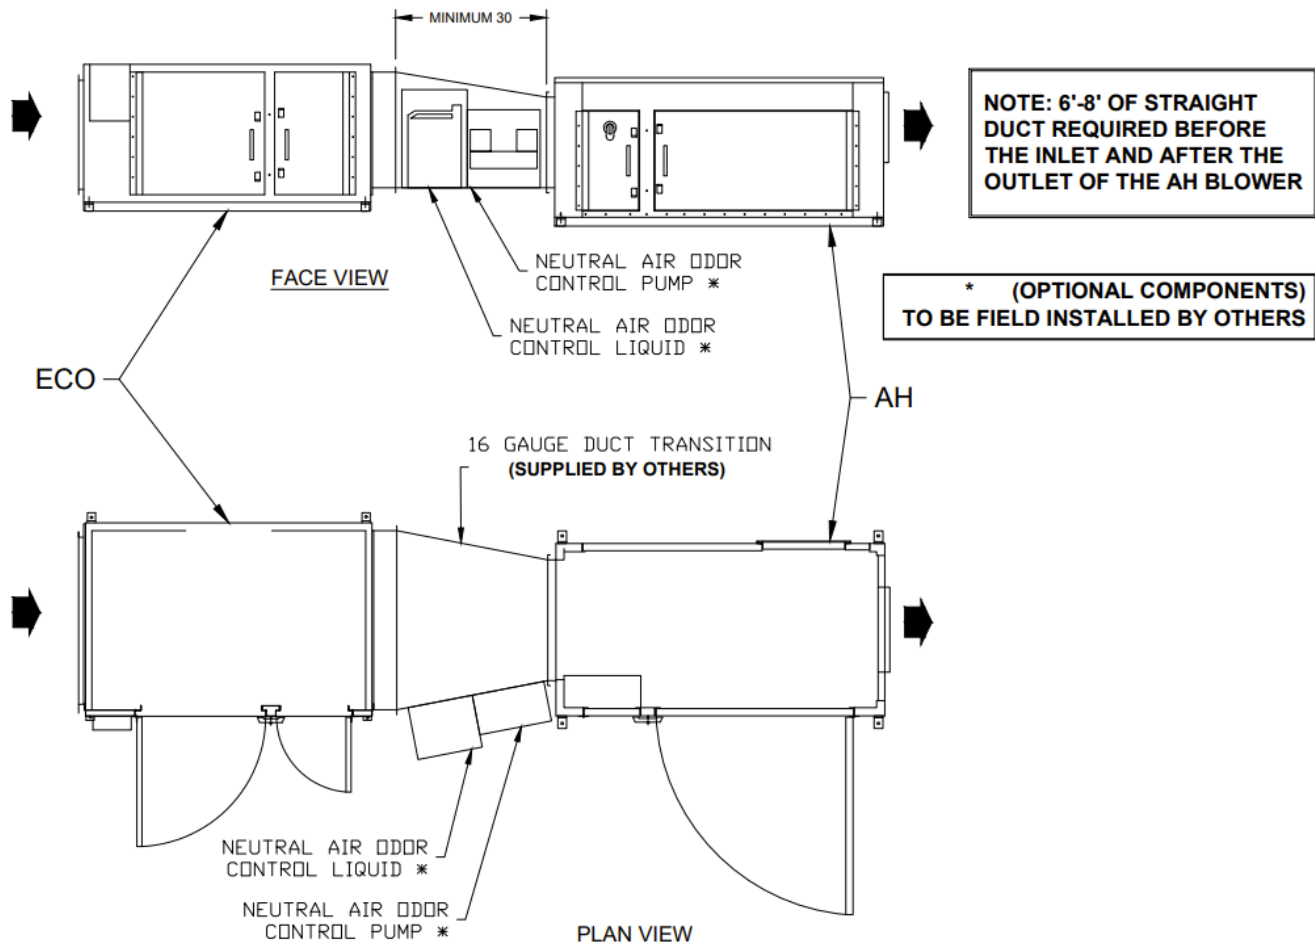

Fig.3
- The ECO filter section must be installed before the AH unit to remove the grease in the air before going through the blower. If the unit included either an optional odor filter section or odor control spray it is to be installed between the ECO and AH units as per figure 3. A minimum of 30" must be kept between the ECO and AH sections.